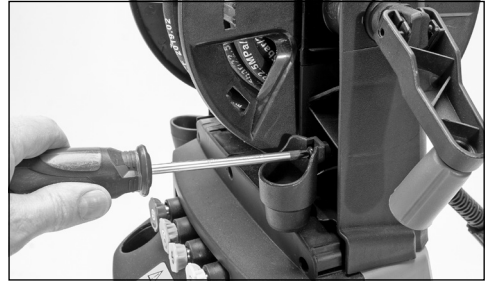

Fig. 4
6.3 Turbo Nozzle Holder (Fig.4)
- 98679 only** - the holder is supplied fitted. If it requires fitting, screw into position as shown in Fig.4.